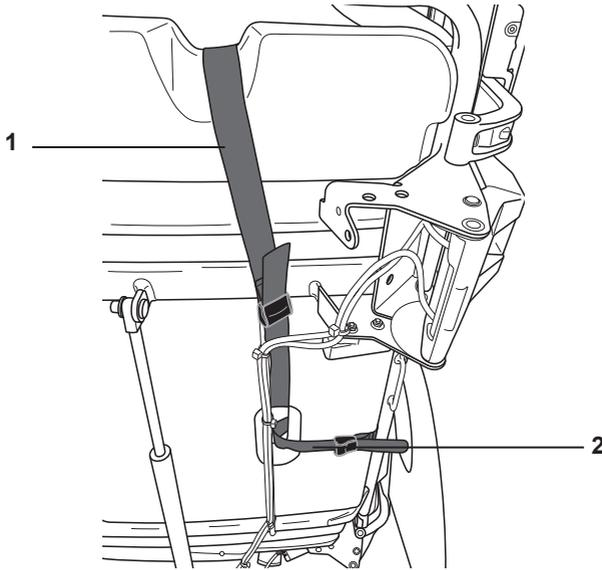

**Figure 7: Press firmly on air connectors**
3. If the mattress does not inflate or an air leak is heard, check that the CPR valves are closed. Check for a leak at the mattress to frame connection point. Refer to Attach Integrated Air Mattress Section, figure 7, to tighten this connection.